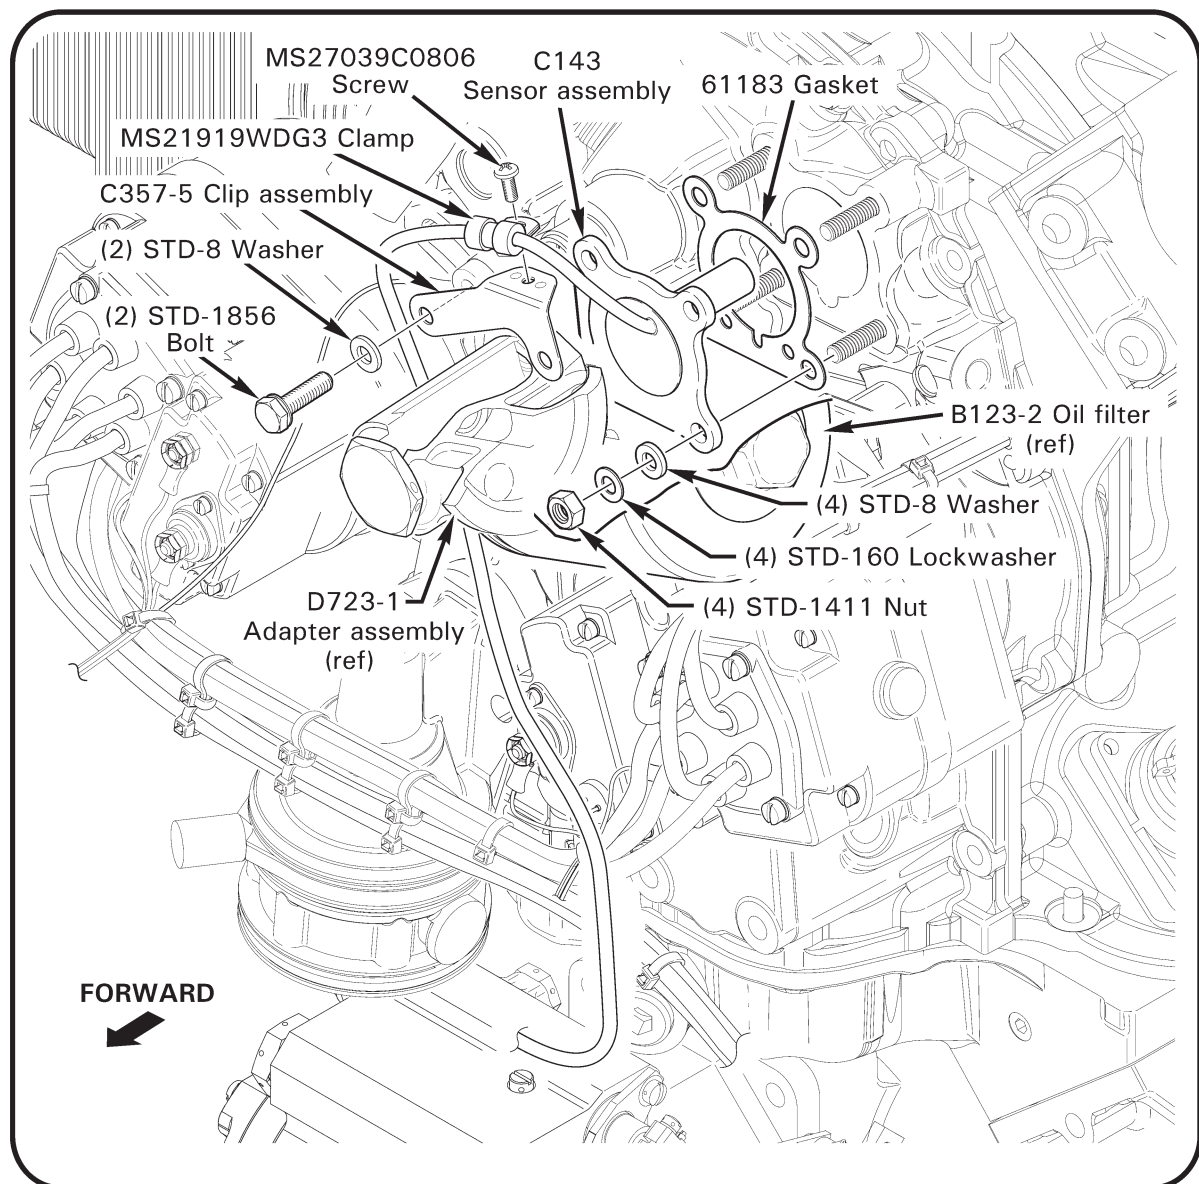

FIGURE 1 Location of sensor & bracket
4. Refer to Figure 1. Disconnect C143 sensor assembly from airframe harness, cutting ty-raps as required. Remove hardware securing C357-5 clip assembly. Remove sensor assembly and gasket; retain hardware. Temporarily cover engine openings. Discard (4) internal teeth lockwashers, MS21919WDG3 clamp & attaching screw, and clip assembly.